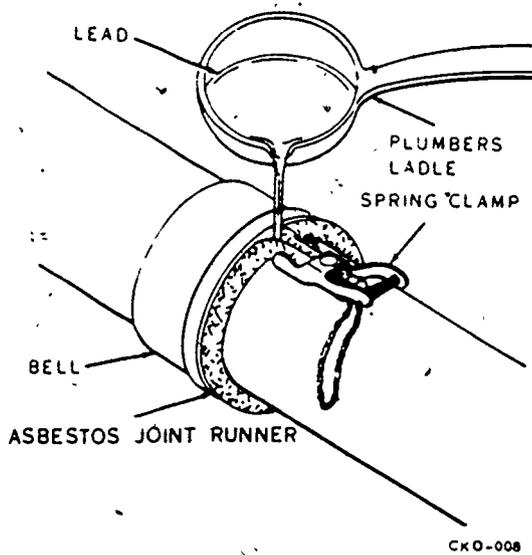

Figure 3-38 Pouring joint using asbestos joint runner.
*Joint runners.* Joint runners may be made of asbestos or rubber. They are placed around the pipe next to the bell of a cast-iron soil pipe, when joints are made in horizontal pipe, before lead is poured in the joint. The runner keeps the lead in place inside the bell until it hardens. Figure 3-38 shows a plumber pouring a joint using the asbestos joint runner. The procedure is exactly the same for the rubber joint runner. Joint runners may be used to pour hot bituminous compounds into vitrified clay pipe hub and spigot joints. Many plumbers like to use an asbestos runner that has been soaked in oil. The oil keeps the runner flexible and from sticking to the lead and bituminous material.